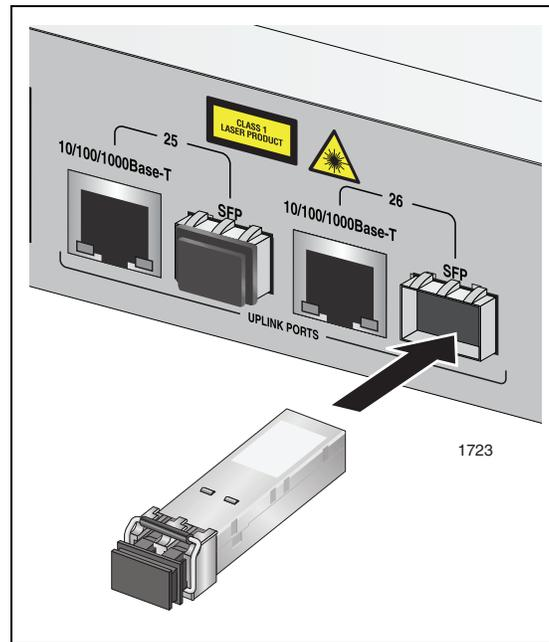

Figure 15. Inserting the SFP
4. Slide the SFP transceiver into an SFP slot on the switch, as shown in Figure 15.